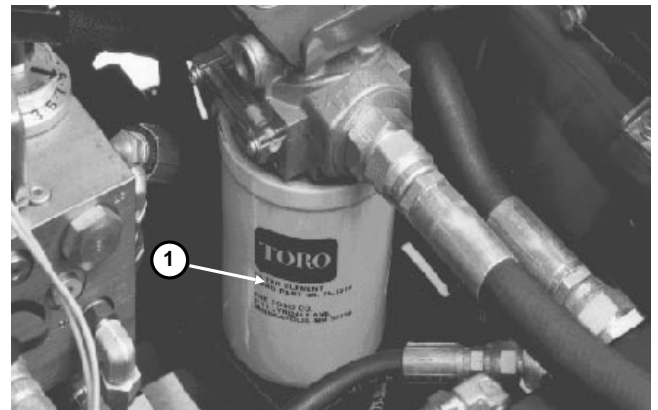

Figure 102
4. Clean area around filter mounting area. Remove and discard filter (Fig. 102). Make sure filter mounting surface is clean. Apply hydraulic oil to gasket on new filter. Fill filter with hydraulic oil. Screw filter on until gasket contacts mounting plate, then tighten filter one-half turn.